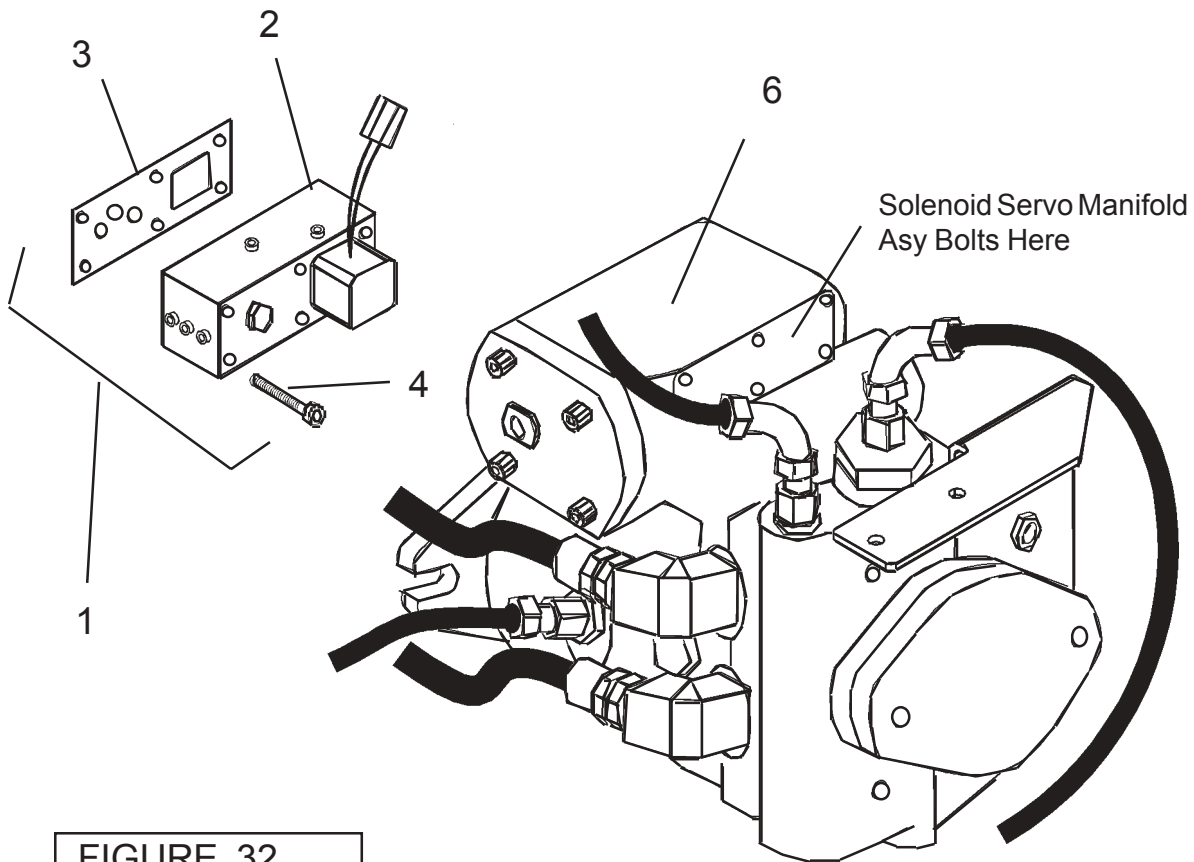

FIGURE 32
(See Figure 32)
3. **Valve Spool Spring.** Install Spring Retainer (item 5), Spring (item 6) and second Spring Retainer (item 5) onto Valve Spool (item 7). Compress Spring by pushing on outer Spring Retainer and install E-Ring (item 4) onto Valve Spool.
4. **Valve Spool.** Install Valve Spool assembled into Control Housing (item 1) making sure that the metering notches (See Figure 32) are facing outward and can be seen through the Metering Ports, Check the notches at this time, if the notches cannot be seen it will not work.
5. **Feedback Link and Bell Crank.** Bell Crank (item 12) should have Head Pin (item 17) already installed. Position Bell Crank in Housing, Slide Feedback Link (item 9) into position between Clevis on Valve Spool aligning holes, install Retaining Dowel Pin (item 10) and E-Ring (item 11).
6. **Input Shaft.** Install New O-Ring (item 15) onto Input Shaft (item 14), Hold Bell Crank in position with Feedback Link Slot and align Splined Hole of Bell Crank with Input Shaft Cavity. Install Input Shaft into Control Housing and Bell Crank. Apply Locktite # 242 or equivalent to Set Screw (item 13) and install it to retain Input Shaft. Tighten Set Screw till it bottoms out against Input Shaft and then back it out 1/4 turn.
7. **Wiper Seal.** Install Wiper Seal (item 16) on Input Shaft and seat into Control Housing.
8. **Valve Spool Plug.** Install New O-Ring (item 3) onto Valve Spool Plug (item 2) and install Plug, Tighten Plug till there is no play in Valve Spool with Input Shaft held stationary. Lock in place with Set Screw (item 8), Torque Set Screw to 17 to 25 in. lbs. (2 to 3 nm)